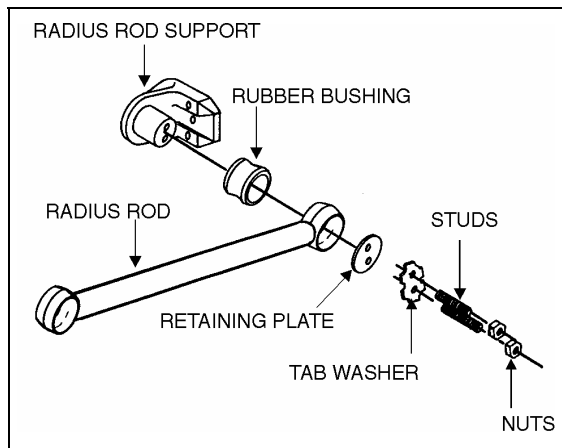

FIGURE 6: TYPICAL RADIUS ROD SETUP 16010
| FIGURE 6: TYPICAL RADIUS ROD SETUP 16-7 | |
1. Flatten the tab washer which secures the two retaining nuts (or bolts), then unscrew the nuts (or bolts) at each extremity of the radius rod (Fig. 6).